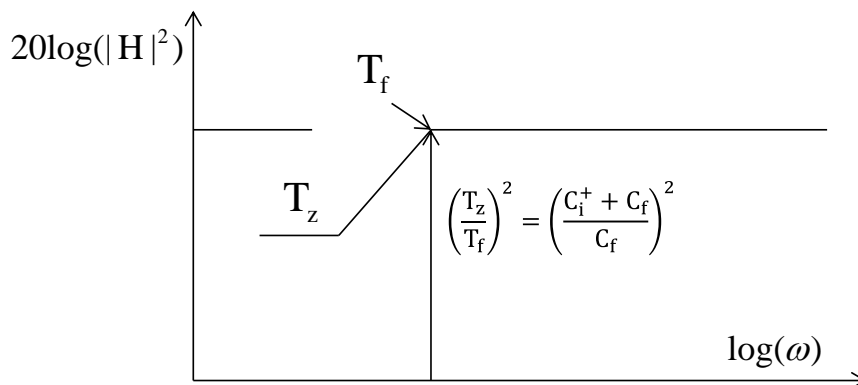

Figure 11: Bode plot of the H_{IR} transfer function, case without T_r
Note that this transfer function (31) predicts constant gain for high frequencies (Figure 11). If we substituted this function in formula (26), we would obtain infinite noise power. Something is wrong.